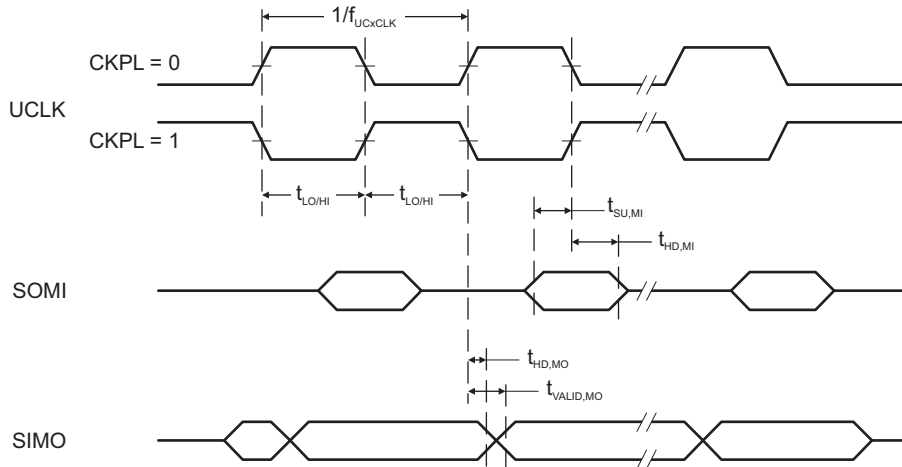
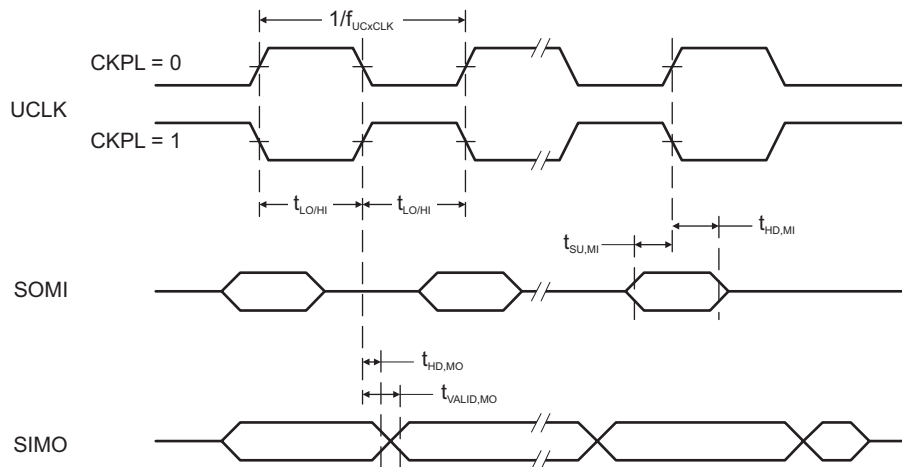

Figure 5-11. SPI Master Mode, CKPH = 0
Figure 5-12. SPI Master Mode, CKPH = 1
(see Figure 5-11 and )
- (2) Specifies the time to drive the next valid data to the SIMO output after the output changing UCLK clock edge. See the timing diagrams in Figure 5-11 and Figure 5-12.
- (3) Specifies how long data on the SIMO output is valid after the output changing UCLK clock edge. Negative values indicate that the data on the SIMO output can become invalid before the output changing clock edge observed on UCLK. See the timing diagrams in Figure 5-11 and Figure 5-12.